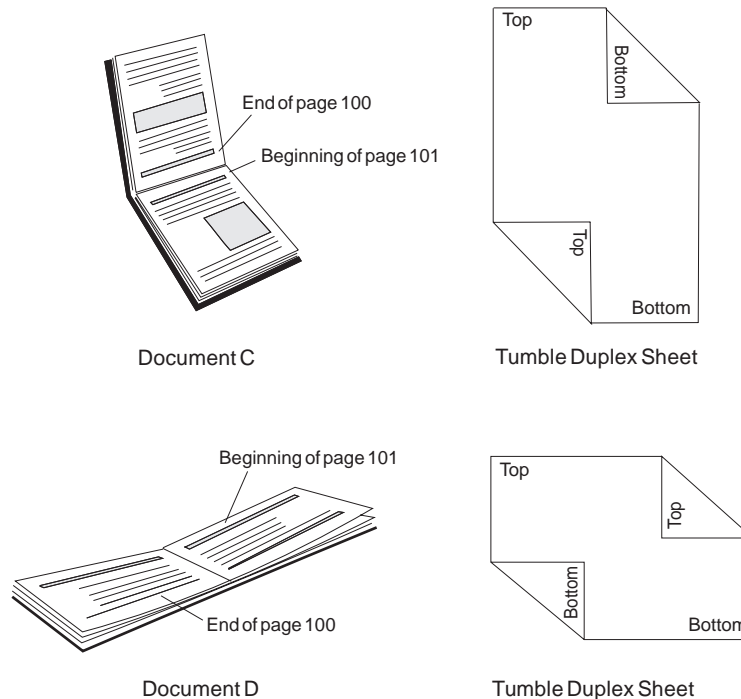

Figure 29. Duplex Documents C and D Specified as Tumble Duplex
- If the sheets are to be bound on the short edge of the paper, as Document C and Document D are in Figure 29 on page 71, specify *tumble duplex*.
Figure 29 on page 71 shows Document C and Document D printed with tumble duplex. Notice that the pages are printed in the *portrait position* for Document C and in the *landscape position* for Document D.